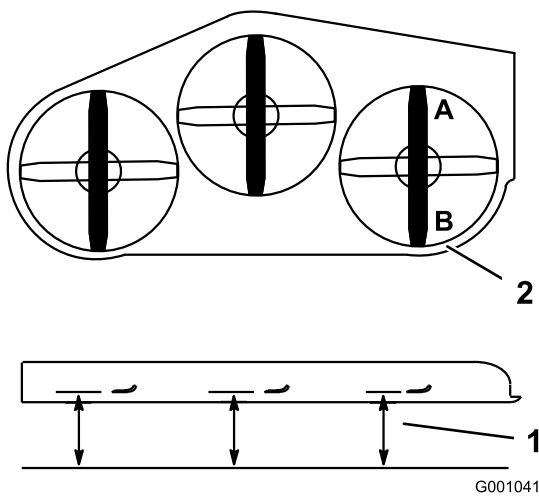
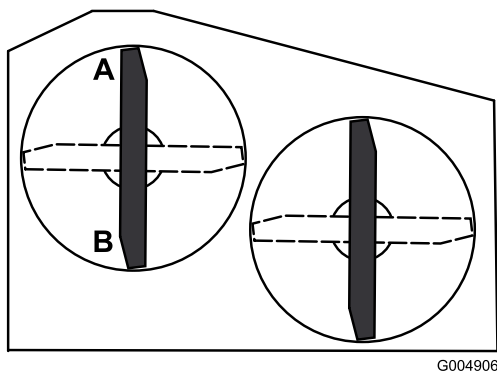

Figure 65
Figure 66
2. Position one blade front-to-rear. Measure at **A** and **B** locations from a level surface to the cutting edge of the blade tips (Figure 65 or Figure 66). For 36 inch mower decks use Figure 66.
4. Position the blades front-to-rear. Measure at **C** and **D** locations (Figure 65) from a level surface to the cutting edge of the blades.